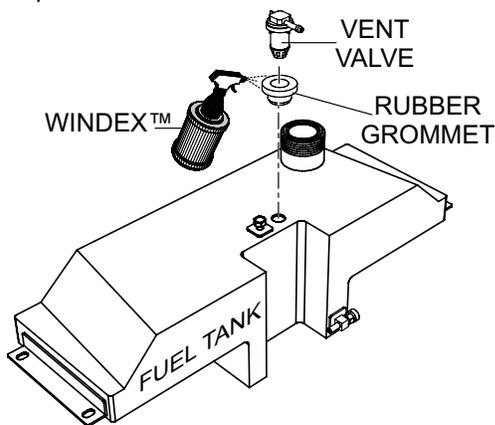

Figure 13. Vent Valve Installation
1. Spray the inside and outside of the vent valve grommet with Windex™ or an equivalent solution as shown in Figure 13. This will make it easy to fit the grommet onto the vent valve.
3. Insert vent valve with grommet attached into fuel tank as shown in Figure 13. Please note orientation of vent valve port.